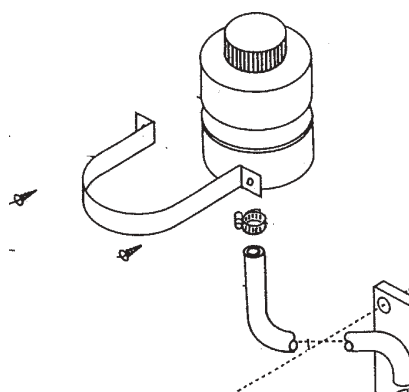

Fig.8
12. Attach the oil hose to its base on the bracket and mount the oil container (fig. 8) close to the bow thruster but above the water line. The hose should be mounted in such a way that no air traps are formed which could hamper the oil flow to the gear house. Fill the oil container and open the oil plug in the gear house. Wait until oil leaks out. Put the oil plug back in place. This is done to speed up the oil flow to the gear house and also to squeeze out any air that is left in the hose.